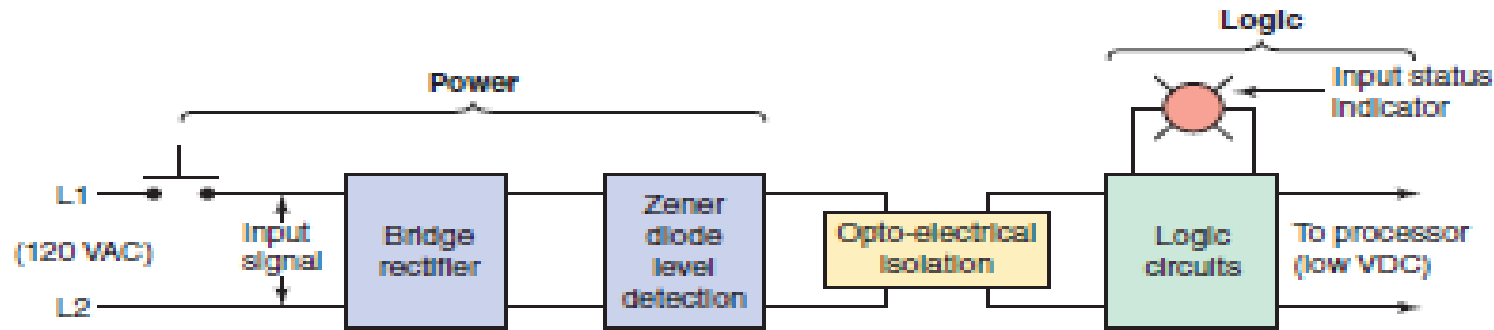

Figure 2-14 Discrete AC input module block diagram.
Figure 2-14 shows the block diagrams for one input of a typical alternating current (AC) *discrete input module*. The input circuit is composed of two basic sections: the *power* section and the *logic* section. An optical isolator is used to provide electrical isolation between the field wiring and the PLC backplane internal circuitry. The input LED turns on or off, indicating the status of the input device. Logic circuits process the digital signal to the processor. Internal PLC control circuitry typically operates at 5 VDC or less volts.